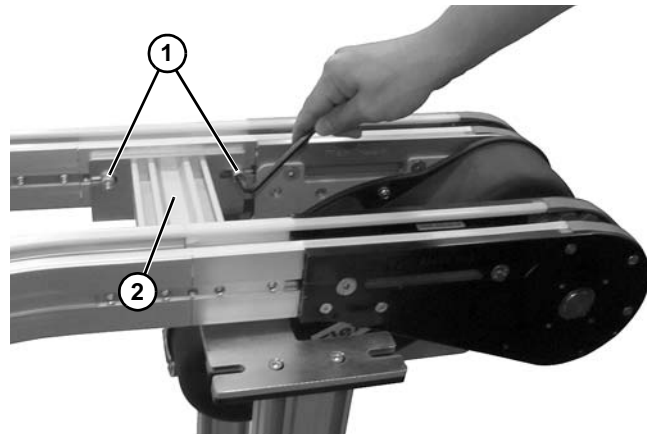

Figure 186
2. Remove two socket head screws (Figure 186, item 1) on both sides of the crossmember (Figure 186, item 2).